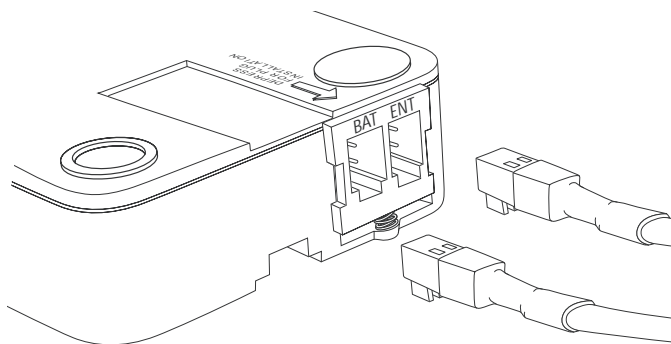

Figure 1
- Connect power to the lock via the logic module or small/large battery box through the port on the lock marked BAT. LA GARD recommends the use of Duracell™ or Eveready™ batteries, see figure 1.